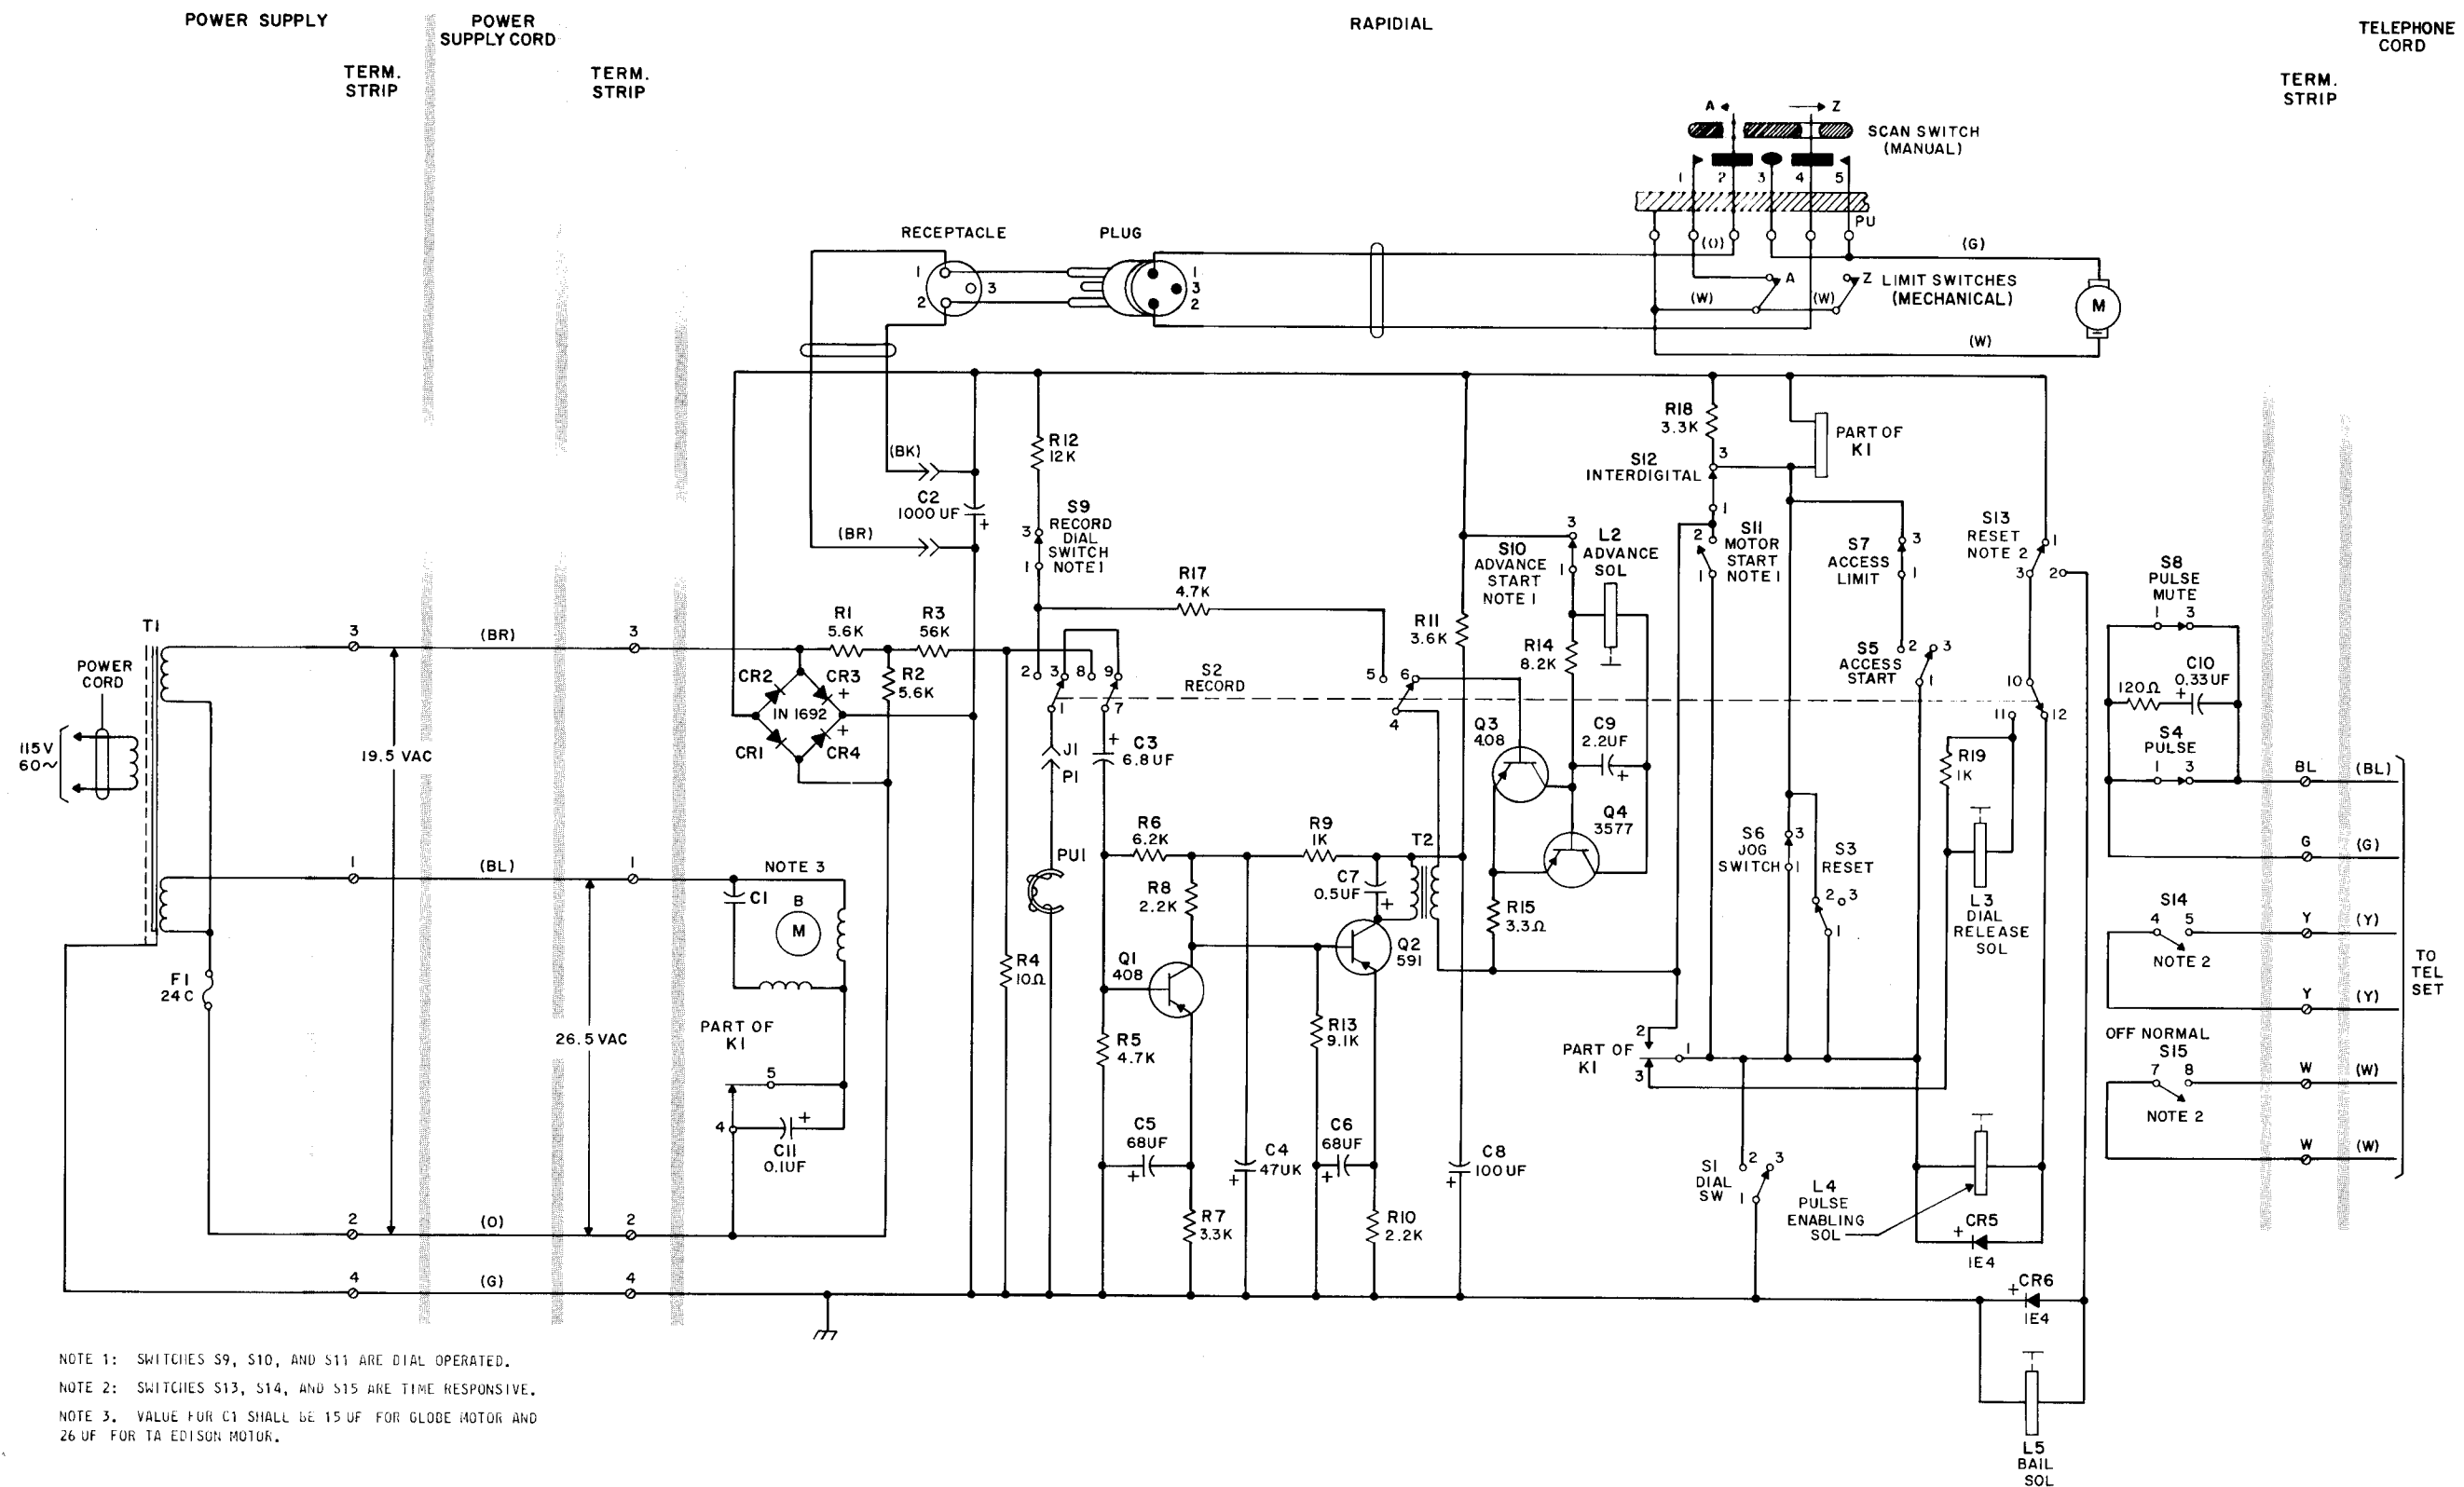

Fig. 13 - KS-16844 Circuit
- (1) Order List 1 or List 10 Rapidial unit, as required.
- (2) Remove tape assembly from new Rapidial and replace with tape assembly from defective unit. This is done to avoid re-recording customer entries to new tape assembly.
- (3) Place new tape assembly in defective Rapidial and return for repairs.
6.08 Fig. 13 is provided to show the KS-16844 Rapidial circuit.